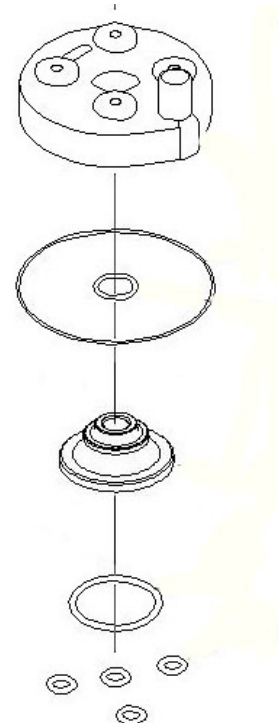

Figure 29
16. Install O-RINGS as shown in figure 29.